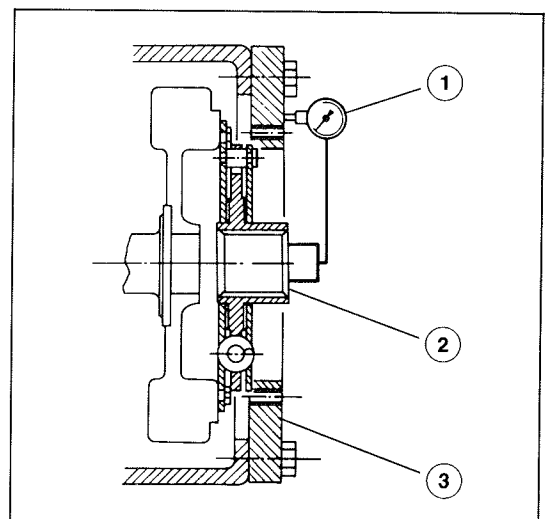

Figure 8
- Attach caliper linkage (Figure 8, item 1) to damper plate.
- Attach caliper linkage (Figure 8, item 1) to the damper plate (Figure 8, item 2).
- Apply base of caliper at right angles to plane surface of the intermediate flange (Figure 8, item 3).